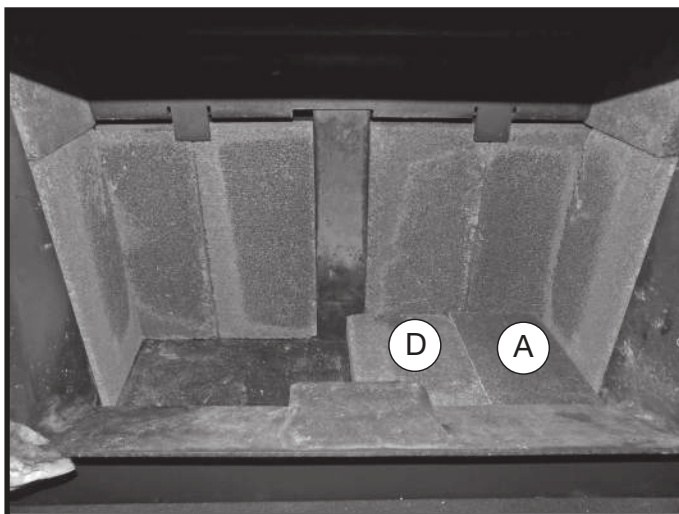

Figure 20: (A) and (D) bricks on firebox floor.
The four floor bricks consist of two different sizes. One (A) brick and one (D) brick (Figure 20) should occupy each half of the floor space. After that, there is no particular order with which they must be arranged.